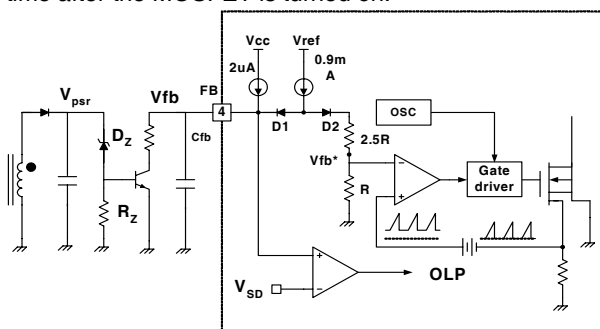

Figure 23. Pulse-Width Modulation (PWM) Circuit
2. Feedback Control: FS8S0765RCB employs primary side regulation, which permits elimination of feedback circuit components in the secondary side, such as optocoupler and TL431. Figure 23 shows the primary side control circuit. The primary side regulation voltage (V_{psr}) is controlled to the breakdown voltage of zener diode (D_z). Because current mode control is employed, the drain current of the power MOSFET is limited by the inverting input of PWM comparator (V_{fb}^*). When MOSFET turns on, usually there exists high current spike in the MOSFET current caused by primary-side capacitance and secondary-side rectifier reverse recovery. To prevent premature termination of the switching pulse due to the current spike, the FPS employs leading edge blanking (LEB). The leading edge blanking circuit inhibits the PWM comparator for a short time after the MOSFET is turned on.